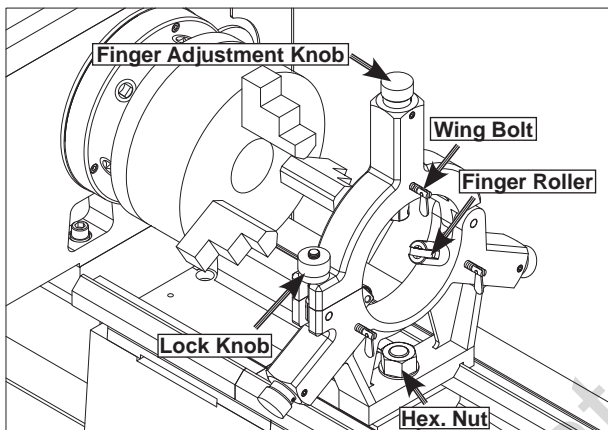

Figure 38. Steady rest components.
3. Position the steady rest where required to properly support the workpiece, then tighten the hex nut shown in Figure 38 to secure it in place.